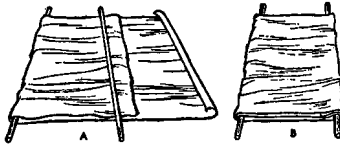

FIGURE 33. Improvised Litter.
- a. Litter (stretcher). If no litter is available, one may be improvised. Use a cot or door, or use two poles with a blanket as shown in Figure 33; a strong sheet, rugs, or coats may be substituted for the blanket.